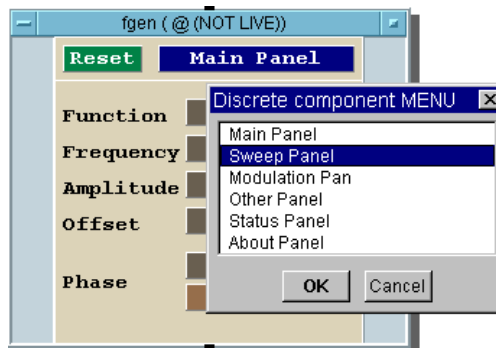

Figure 3-13. Sweep Panel in Discrete Component Menu
1. In the `Panel Driver` object, click `Main Panel` and select `Sweep` in the `Discrete Component MENU` presented as shown in Figure 3-13.